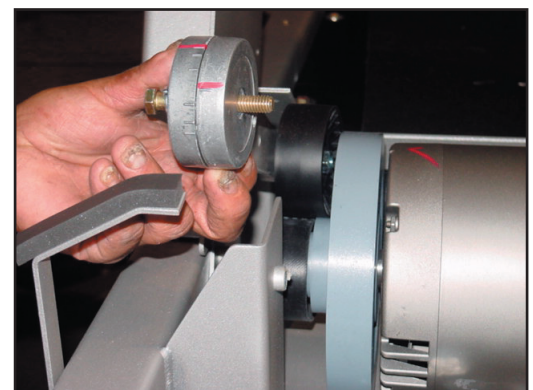

Figure 12
- 2.2 Loosen the mounting bolt attaching the tension wheel to the bracket and remove the tension wheel assembly, then remove the drive belt from the motor flywheel pulley. See Figure 12.